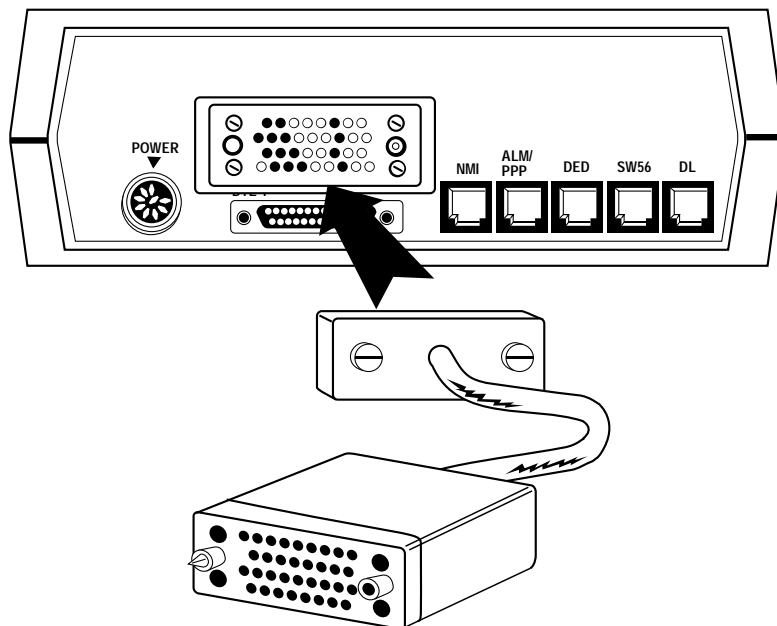

Figure 3-3. V.35 DTE Connection
- **V.35** - Use Adapter Part No. 27C522-02 (25-pin male to 34-pin female) to make this connection. This adapter is provided with the DAP and must be installed on the connector labeled **DTE 2**. Use a standard V.35 cable (34-pin male to 34-pin female) to make this connection. This cable is typically supplied with the DTE. To connect to the DTE, plug the male end of the cable into the adapter and plug the female end into the DTE. Figure 3-3 illustrates this connection. Table 3-2 lists the pin/signal assignments for the **DTE 2** connector.